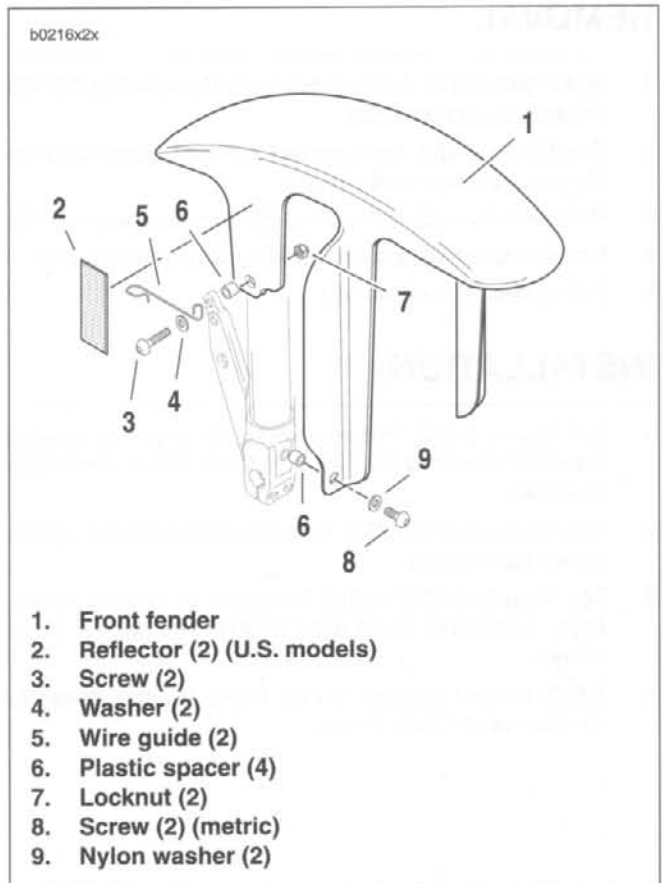

Figure 2-151. Front Fender
3. See Figure 2-151. Remove lower fender mounting screws (8) (metric), washers (9) and plastic spacers (6).
4. Remove upper fender mounting screws (3), washers (4), wire guides (5), plastic spacers (6) and locknuts (7).
5. Carefully remove fender (1) from between front forks.
- a. Tighten upper fender mounting screws (3) to 20-25 **in-lbs** (2.3-2.8 Nm).
- b. Tighten lower fender mounting screws (8) (metric) to 10-15 **in-lbs** (1.1-1.7 Nm).